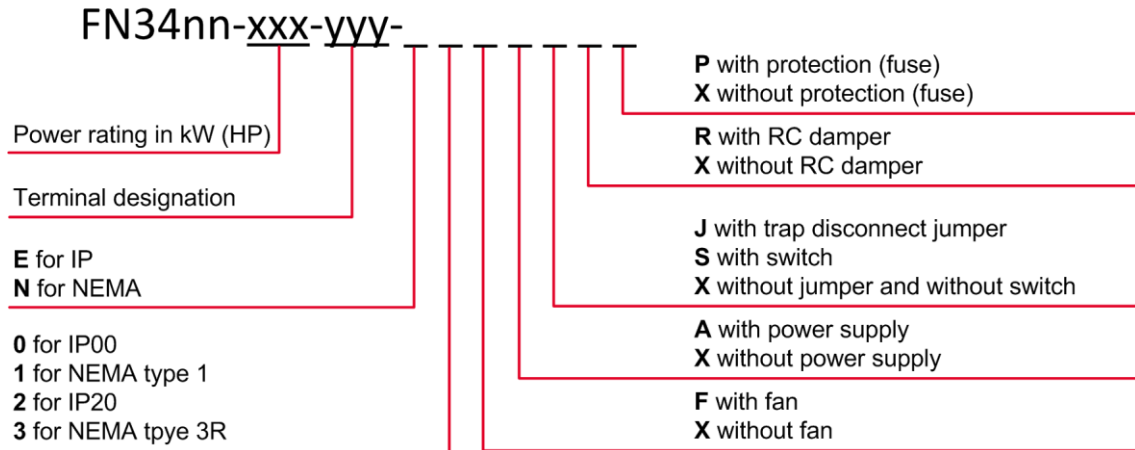

Figure 1 Ecosine EVO designation
Ecosine EVO is the new generation of Schaffner Passive Harmonic Filter, they are introduced with new designations, which contains 4 parts, and they are connected with '-' symbol, as shown in Figure 1.
- The fourth part of the designation '**FN34nn-xxx-yyy-E0_ _ _ _ _**' contains seven slots, the first two reveal the protection category of the filter. The latter five slots represent the presence of optional modules in the filter, as shown in Figure 1. Please find more information in section 2.4, 2.5 and 2.6.